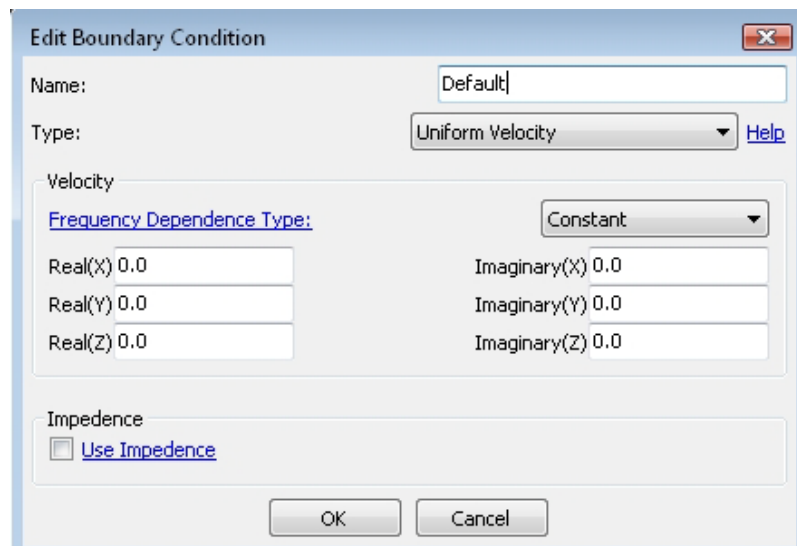

Figure A.16 Edit boundary conditions window.
- Right-click on **Default** and select: **Edit...** to make changes to the default boundary conditions applied to all the boundary elements. The window in Figure A.16 will appear.